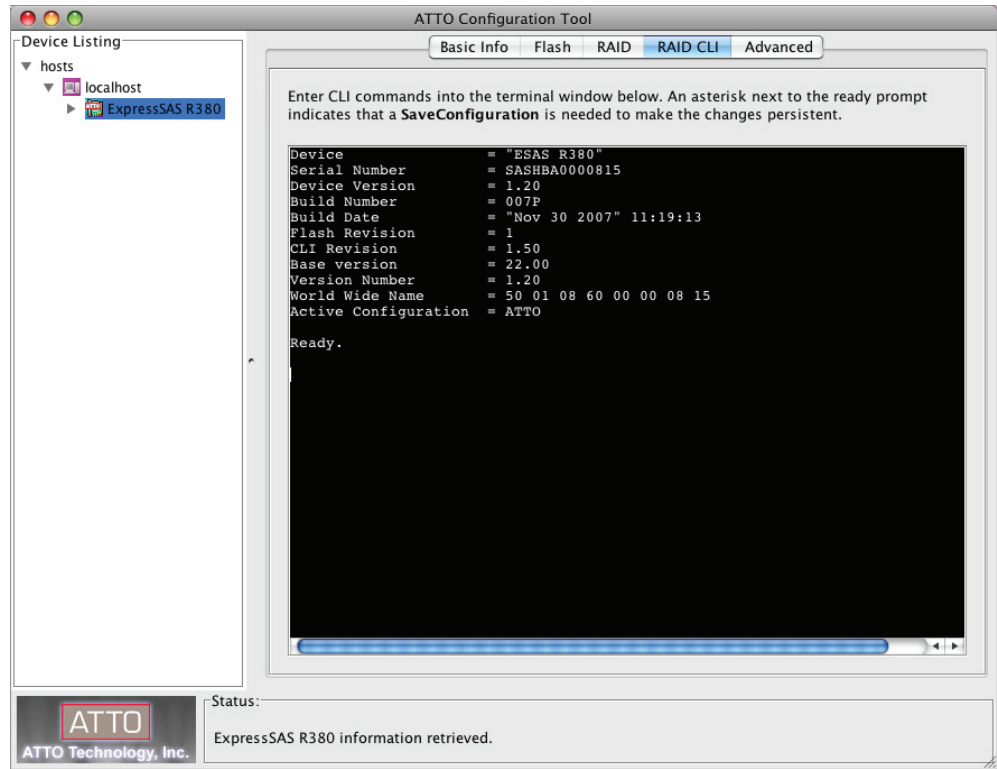

Figure 6
- The **RAID CLI** tab provides access to the command line interface, which, as an alternative to application menu-based commands, enables the use of ASCII-based commands to control configuration and diagnostic tasks. See **Figure 6** on page 5.